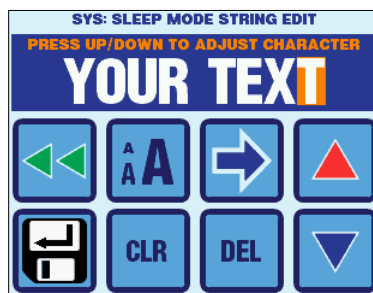

Figure 38 – Sleep Mode Text Editor
**Sleep Mode Text Edit** – This special entry screen shown in Figure 38 allows the editing of the text string that will be displayed in Sleep Mode when “Custom Text” is selected as the Sleep Mode Display parameter.